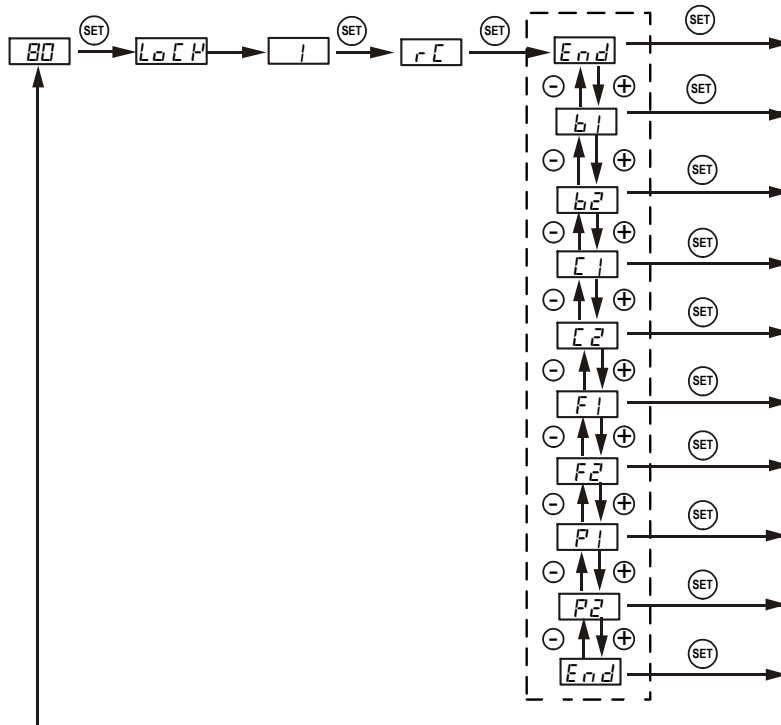

Figure 11. Flow chart of recalling a recipe.
**WARNING:** Your current program will be overwritten by the selected recipe. Please write it down somewhere if it is important to you. To recall a recipe, press and hold SET key for 2 seconds until the Parameter Window displays "LoCK". Release the SET. The display will show "0". Use "+" and "-" keys to adjust the display to 1 and press SET. The display will show "rC" for a second and then the value "End". If you press SET key now, you will exit this mode without overwriting any existing programs. This can prevent your current program from being accidentally overwritten by a recalled program. Use "+" or "-" key to locate the recipe you want to recall. If you press "+" key repeatedly, you will see "End", "b1", "b2", "C1", "C2", "F1", "F2", "P1", and "P2" one by one. After you locate the recipe that you want to recall, press the SET key to select. The current program will be overwritten by the selected program. Figure 11 shows the flow chart of how to recall a recipe.